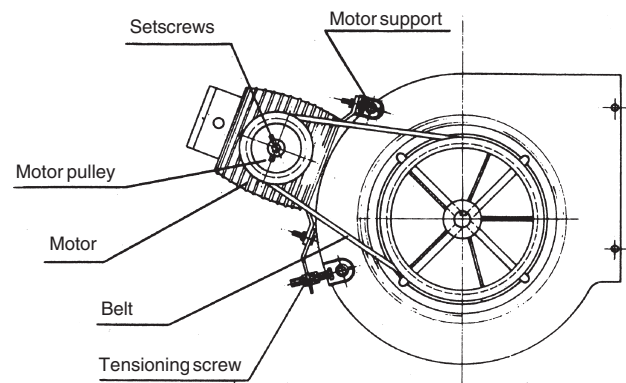
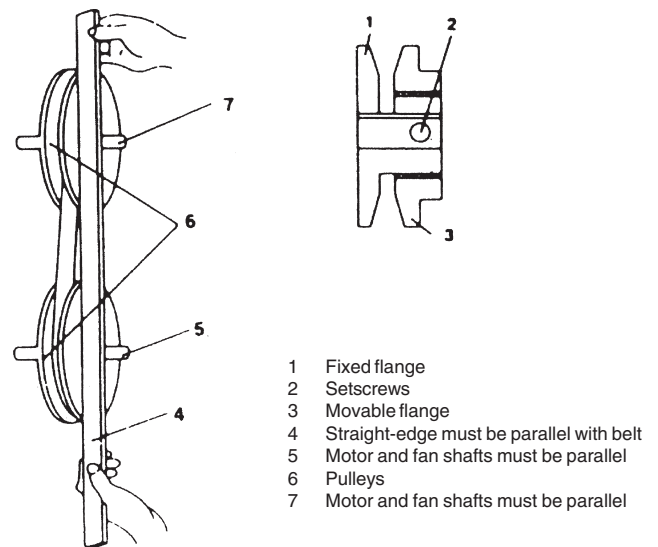

Fig. 37
Fig. 38
- Move the motor along its track in order to remove the belt (ver Fig. 37).
- Loosen the pulley setscrews ② and rotate as necessary.
- Tighten the setscrews ②.
- Tighten the belt(s), using the tension screw nut and washer ⑥ (see Fig. 38).
- After the first operating hours, check the belt tension and if necessary retighten the belts (see Fig. 38).